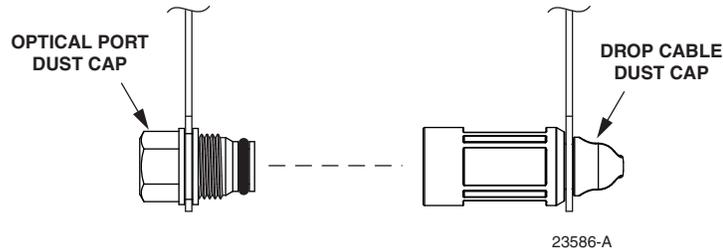

Figure 16. Dust Caps
8. Thread the optical port dust cap into the drop cable dust cap as shown in Figure 16 and then tighten both dust caps finger tight. This ensures that both dust caps will stay clean when not in use.
1. Before removing the connector dust cap, clean any debris from around the dust cap, preferably using compressed air, to minimize contaminants from being introduced onto the ferrule. Unscrew the optical port dust cap from the drop cable dust cap (see Figure 16).